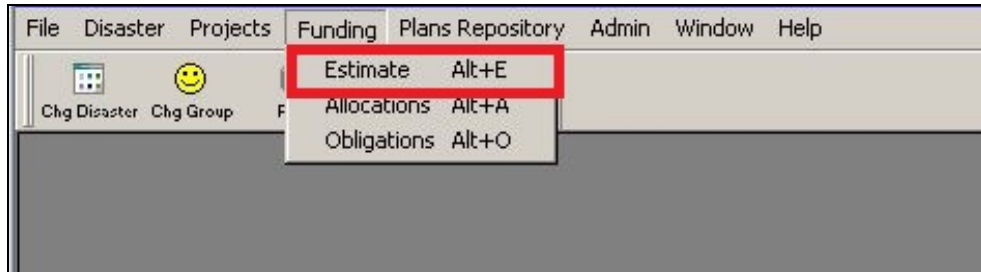

Figure 11-50: Mitigation >Funding >Estimate
1. On the MITIGATION menu, click on Funding > Estimate (Figure 11-50).